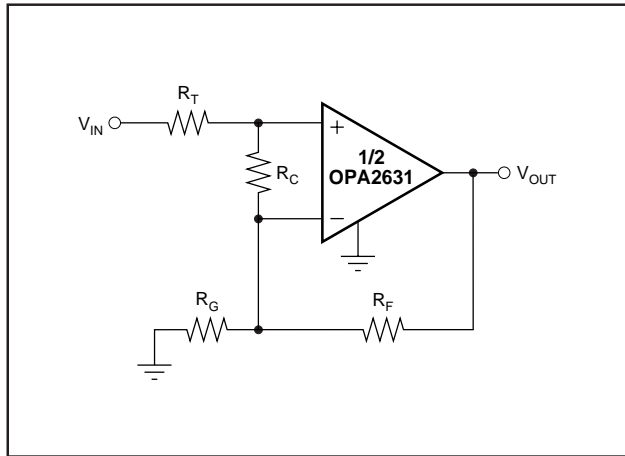

FIGURE 6. Compensated Non-Inverting Amplifier.
Figure 6 shows a non-inverting amplifier that reduces peaking at low gains. The resistor R_C compensates the OPA2631 to have higher Noise Gain (NG), which reduces the AC response peaking (typically 5dB at $G = +1$ without R_C) without changing the DC gain. V_{IN} needs to be a low impedance source, such as an op amp. The resistor values are low to reduce noise. Using both R_T and R_F helps minimize the impact of parasitic impedances.
Since the OPA2631 is a voltage feedback op amp, a wide range of resistor values may be used for the feedback and gain setting resistors. The primary limits on these values are set by dynamic range (noise and distortion) and parasitic capacitance considerations. For a non-inverting unity gain follower application, the feedback connection should be made with a 25Ω resistor, not a direct short (see Figure 6). This will isolate the inverting input capacitance from the output pin and improve the frequency response flatness. Usually, for $G > 1$ application, the feedback resistor value should be between 200Ω and $1.5k\Omega$. Below 200Ω , the feedback network will present additional output loading which can degrade the harmonic distortion performance. Above $1.5k\Omega$, the typical parasitic capacitance (approximately $0.2pF$) across the feedback resistor may cause unintentional band-limiting in the amplifier response.
tance can add a pole and/or zero below 500MHz that can effect circuit operation. Keep resistor values as low as possible consistent with load driving considerations. The 750Ω feedback used in the typical performance specifications is a good starting point for design. See Figure 6 for the unity gain follower application.